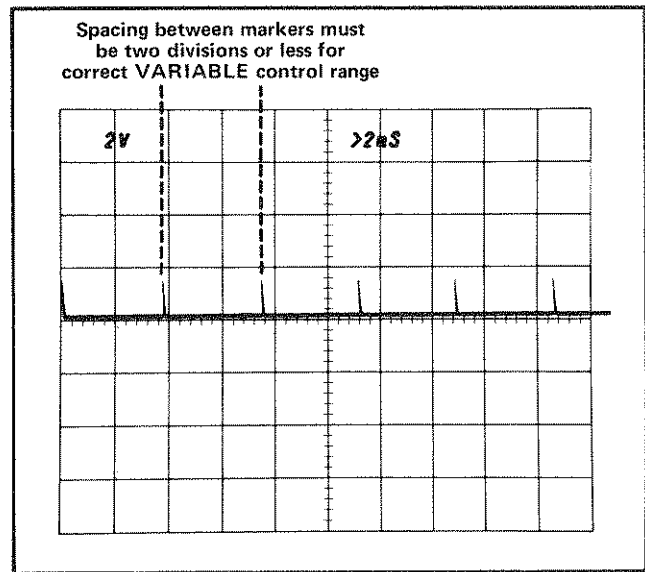

Fig. 5-9. Typical CRT display when checking VARIABLE control range.
c. CHECK—CRT display for a two-division maximum spacing between markers (indicates adequate range for continuously variable sweep rate between the calibrated steps; see Fig. 5-9). Return the VARIABLE TIME/DIV to the CAL IN position.